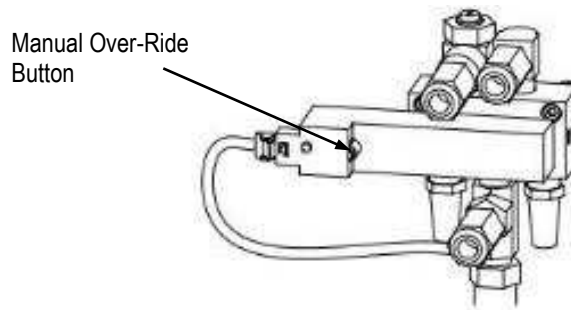

Figure 8
5. Depress and release the manual over-ride button on the air feed valve located on the back of the terminator until the terminal is located above the anvil (see Figure 8).